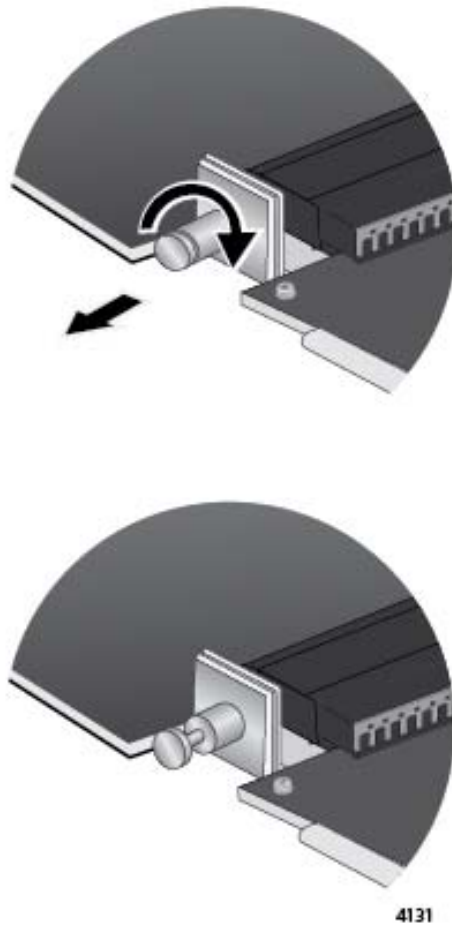

Figure 173. Retracting the Retaining Pin on the AT-SBx81XLEM Line Card
4. With your thumb and forefinger, pull out the retaining pin on the side of the line card and turn it clockwise one quarter turn until it remains in the retracted position. Refer to Figure 173.